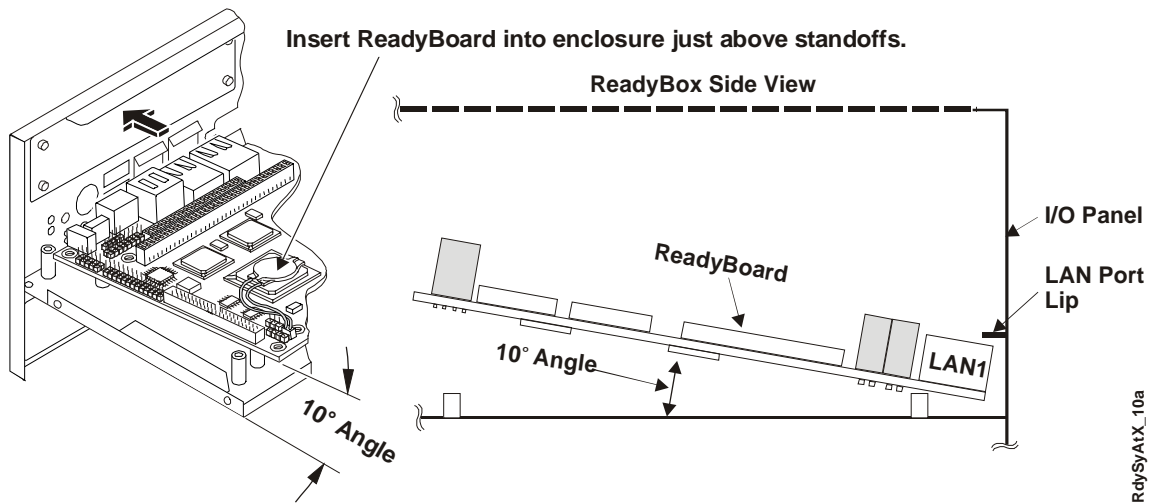

Figure 2-7. ReadyBoard Positioned Under LAN Ports
5. Position the ReadyBoard near the eight standoffs on the enclosure shelf at about a 10° angle to the mounting shelf. See Figures 2-7 and 2-8.
6. Insert the ReadyBoard and its Ethernet connectors just under the lip of the two LAN ports on the enclosure wall, behind the I/O panel. See Figure 2-7.